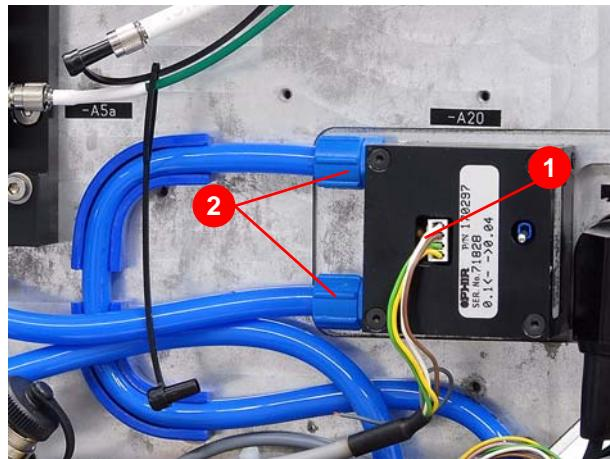

Figure 7.158 Connecting plug/cooling water lines of the power measurement device
3. On the diode side of the laser head, remove the connecting plug (1) (Figure 7.158) from the internal power measurement device.
4. Unscrew the swivel nuts of the cooling water lines (2).